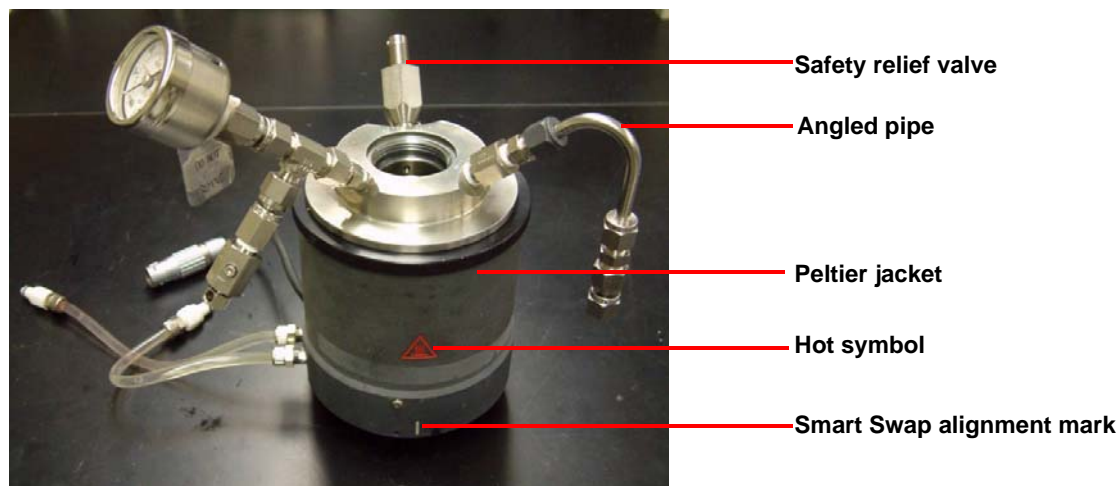

Figure 16 Pressure Cell cup installed in Peltier jacket.
- 4 Connect angled high-pressure pipe to the cell inlet port, ensuring that the straight part of the pipe is vertical, as shown in Figure 16. Tighten the compression connector as directed in the NOTE on page 19.